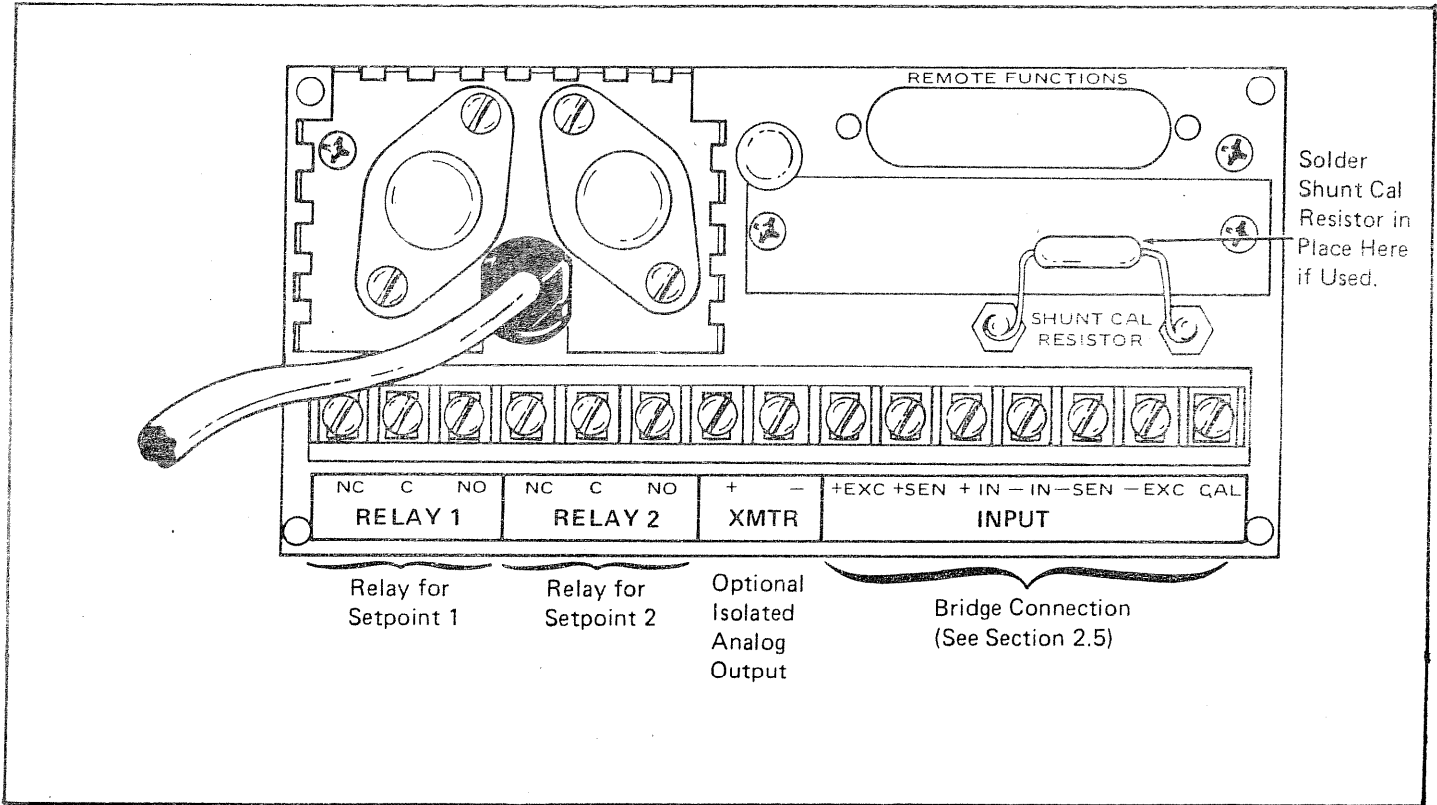

Figure 3-3. Rear Panel Connections
3.3 Preparation for Use. The Series V requires a power source of 120, or 240Vac, as shown on the instrument label. Unless otherwise specified on the label, the instrument is set for 120 VAC operation. Connection for the bridge input is made via the rear-panel barrier terminal strip, as shown in figure 3-3.